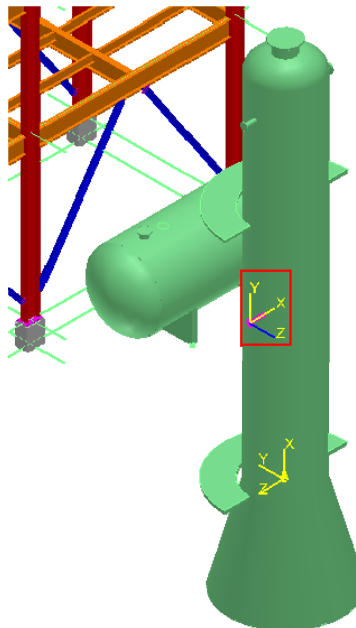

Figure 28: Nozzle T3 Placed
- Click **OK** in the **Nozzle Properties** dialog box. The nozzle **T3** should resemble the highlighted section in Figure 28.